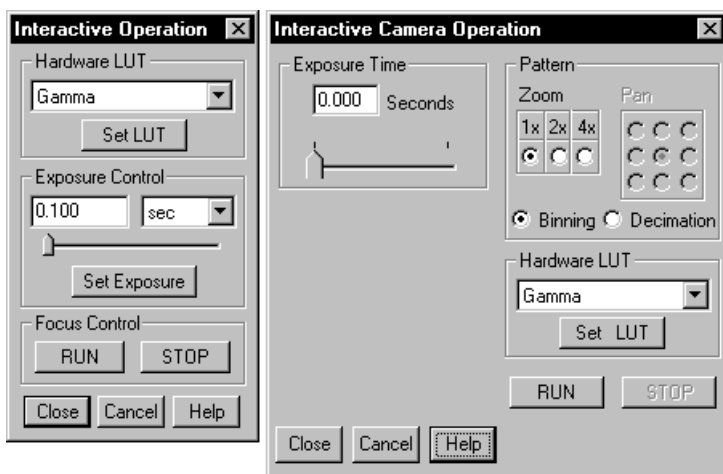

Figure 52. PentaMAX Interactive Operation dialog box
2. Select **Video Focus** from the Acquisition Menu. The Interactive Operation dialog box that will be displayed depends on the PentaMAX version. Version 5 and higher will display the righthand dialog box shown in Figure 52. Earlier versions, will display the lefthand dialog box.